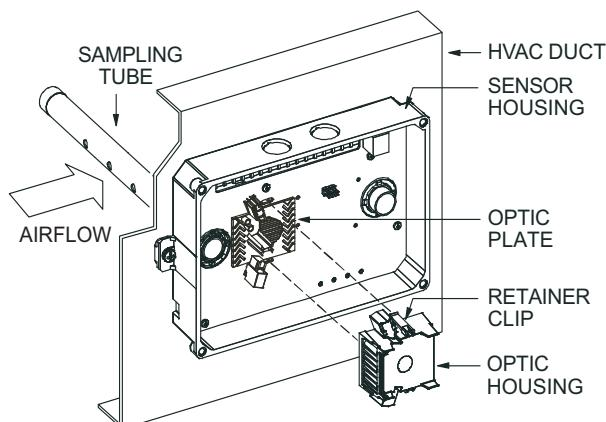

Fig. 13 — Sensor Cleaning Diagram
1. Disconnect power from the duct detector then remove the sensor's cover (see Fig. 13).